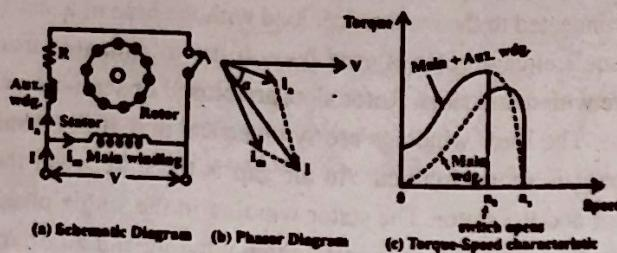

Fig. 1 : Resistance split-phase induction motor
The schematic (circuit) diagram of this motor is given in fig. 1(a). As discussed earlier, another (auxiliary) winding with a high resistance in series is to be added along with the main winding in the stator. This winding has higher resistance to reactance (R_a/X_a) ratio as compared to that in the main winding, and is placed at a space angle of 90° from the main winding as given earlier. The phasor diagram of the currents in two windings and the input voltage is shown in fig. 1(b). The current (I_a) in the auxiliary winding lags the voltage (V) by an angle, ϕ_a , which is small, whereas the current (I_m) in the main winding lags the voltage (V) by an angle, d , which is nearly 90° . The phase angle between the two currents is $(90^\circ - \phi_a)$, which should be at least 30° . This results in a small amount of starting torque. The switch, S (centrifugal switch) is in series with the auxiliary winding. It automatically cuts out the auxiliary or starting winding, when the motor attains a speed close to full load speed. The motor has a starting torque of $100 - 200\%$ of full load torque, with the starting current as 5-7 times the full load current. The torque-speed characteristics of the motor with/without auxiliary winding are shown in fig. 1(c). The change over occurs, when the auxiliary winding is switched off as given earlier. The direction of rotation is reversed by reversing the terminals of any one of two windings, but not both, before connecting the motor to the supply terminals. This motor is used in applications, such as fan, saw, small lathe, centrifugal pump, blower, office equipment, washing machine, etc.